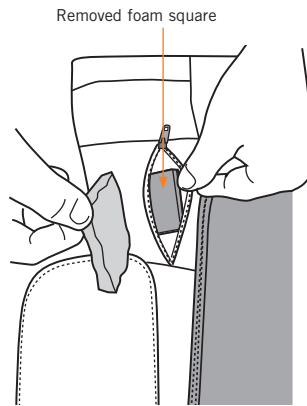

Fig.16
2. Unzip the pocket and remove the foam square (Fig.16).